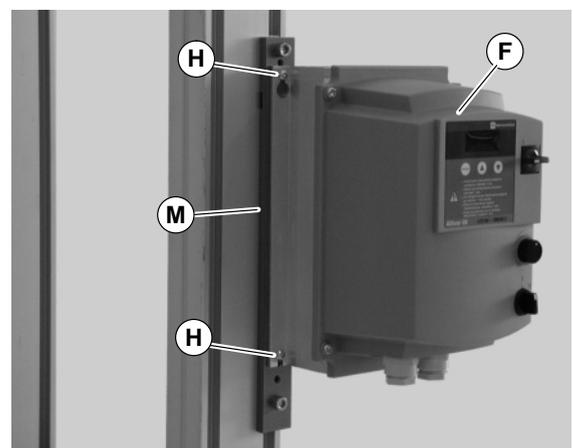

Figure 12
4. Attach controller (F of Figure 12) to mounting bar (M) with screws (H).